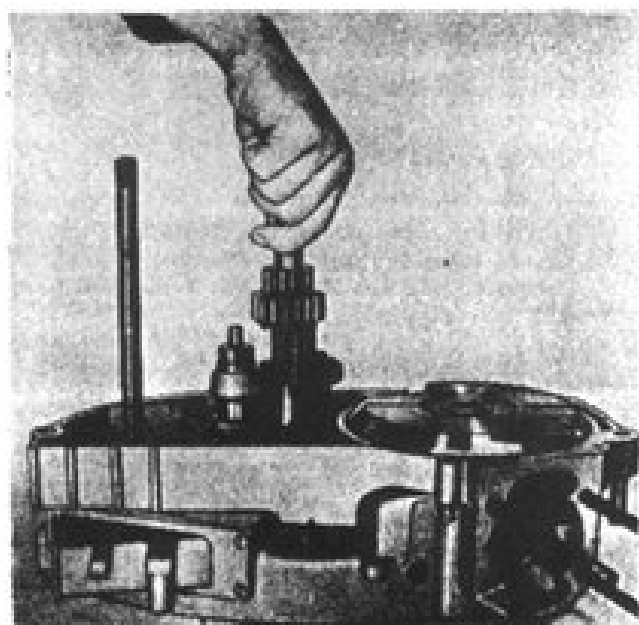

Fig. 29. Setting the HJ-10-3 motorcycle primary shaft.
7. Set the primary shaft taking care not to drop the thrust washer from the mainshaft end (Fig. 29).